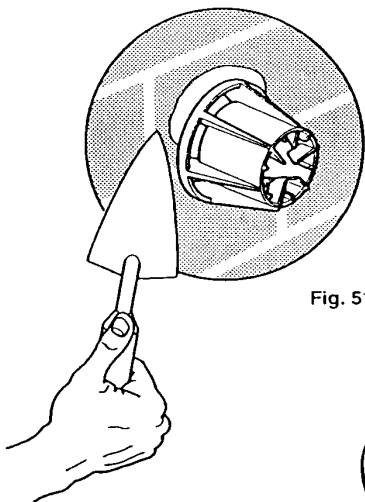

Fig. 51
9. Make good between the wall and the air duct inside and outside the building if the internal fitting kit has not been used (Fig. 51).